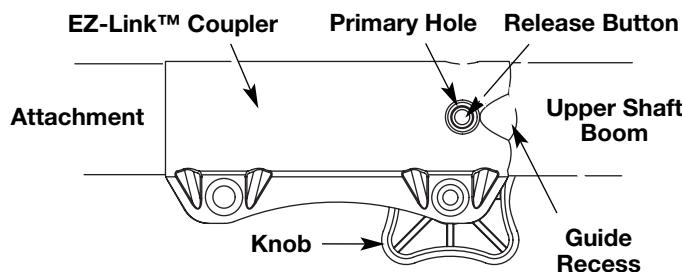
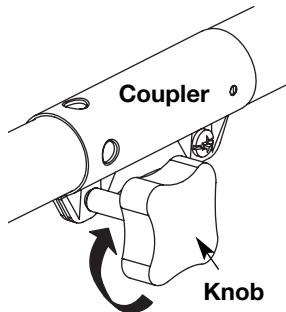

Fig. 21
Fig. 22
3. While firmly holding the attachment, push it straight into the coupler until the release button (Fig. 21) snaps into the primary hole (Fig. 21). The primary hole is on the opposite side of the coupler from the knob (Fig. 21). Align the release button with the Guide Recess (Fig. 21) to help installation.
4. Turn the knob clockwise to tighten (Fig. 22).
3. Press and hold the release button (Fig. 21).
4. While firmly holding the upper shaft boom (Fig. 21), pull the attachment out of the coupler.
**CAUTION:** Before operating this unit, be sure that the release button is fully snapped into the primary hole (Fig. 21), and that the knob (Fig. 22) is securely tightened.